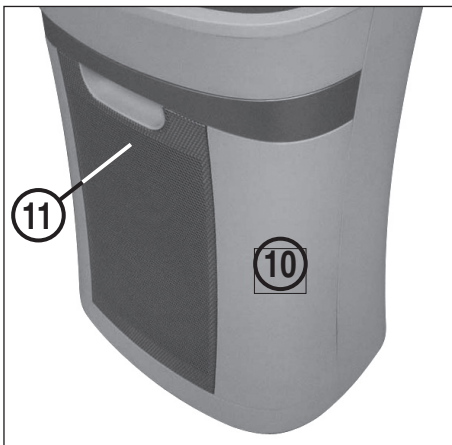

fig. 3
EMPTYING THE RECEPTACLE (Fig. 3):
When the shredded material becomes visible in the "receptacle full" window (11) (fig. 3) it is time to empty the receptacle (10).